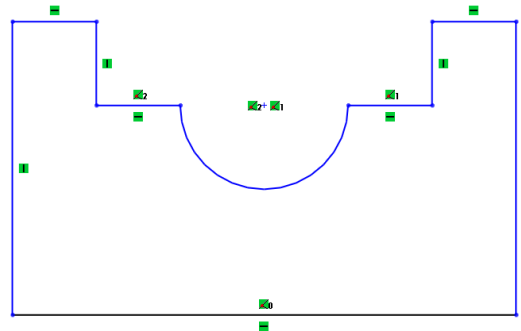

Figure 2-62 Final sketch for Tutorial 2
- d. Draw the sketch using the **Line** tool, refer to Figure 2-62.
18. Press the F key to modify the drawing display area. The final sketch for Tutorial 2 with the grid display turned off is shown in Figure 2-62.